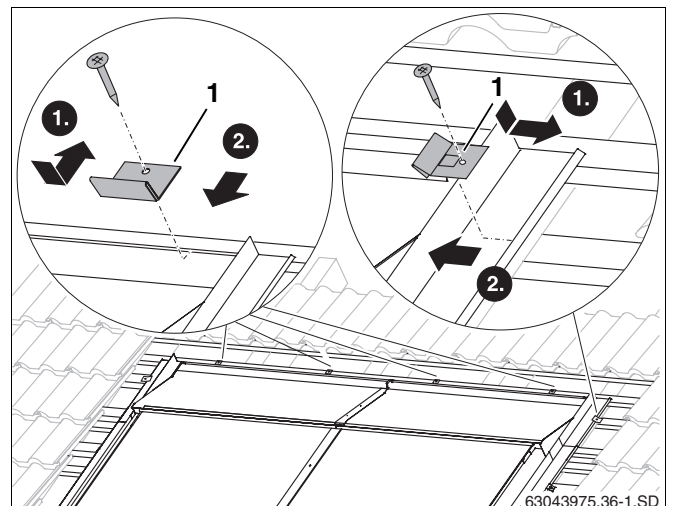

Fig. 58 Fastening upper facing panels with clips
- ▶ Insert clip (Fig. 58, **Item 1**) into the edge of the facing panel.